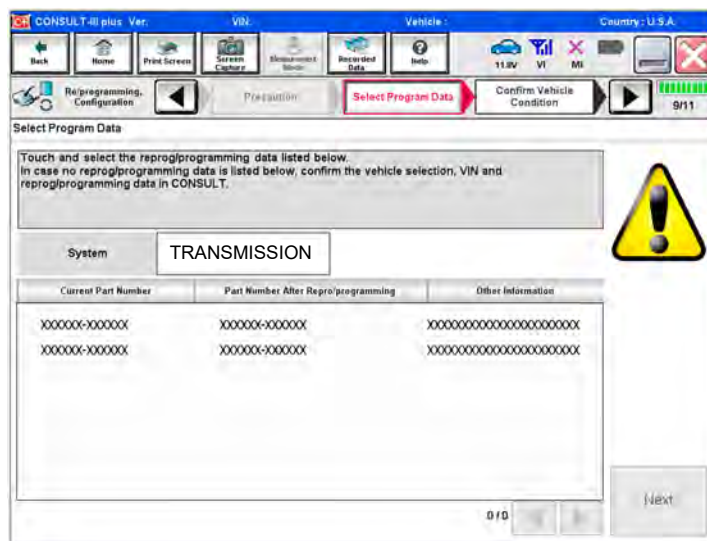

Figure 157
- If more than one new P/N is available, the screen in Figure 157 displays.